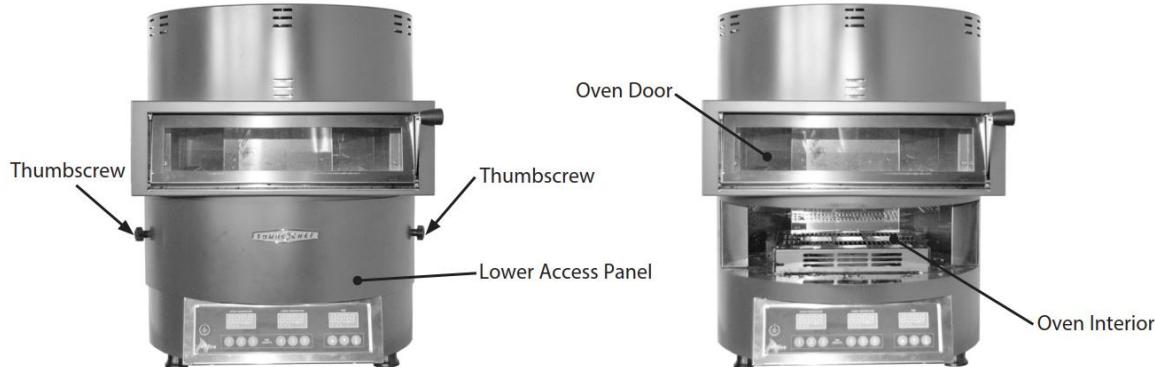

Figure 5-1: Maintenance
5. Ensure the lower access panel is properly installed (thumbscrews are tight), refer to Figure 5-1.